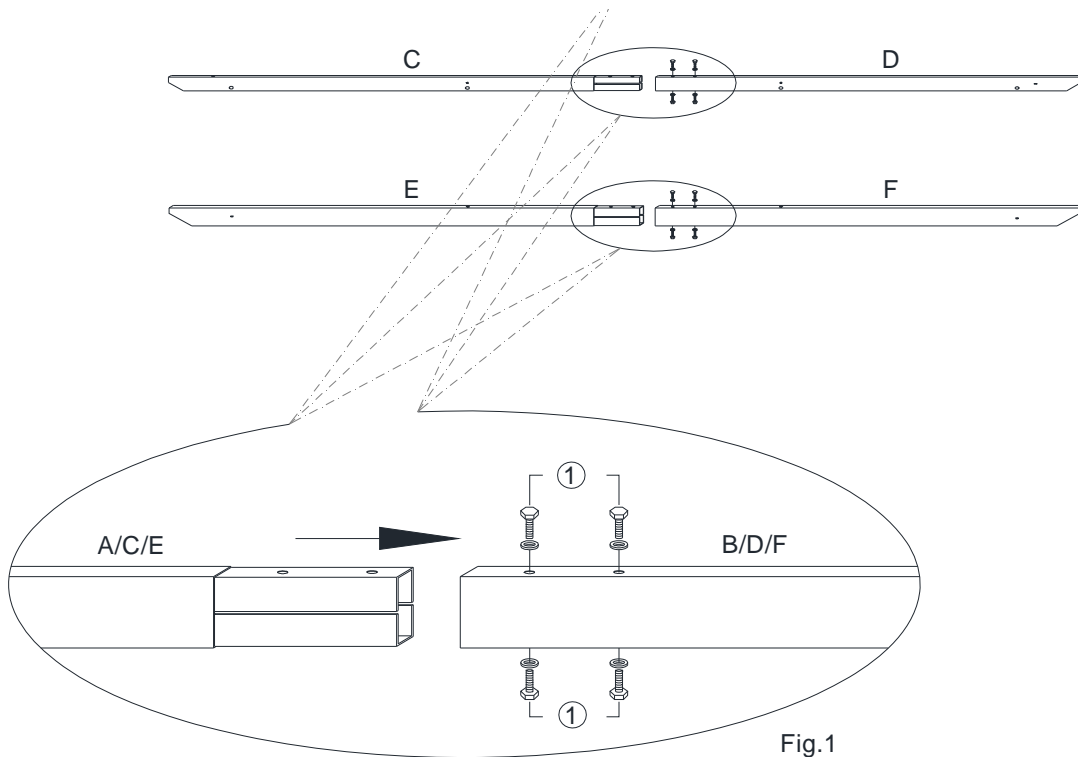

Fig.1
Attach Crossbars(E) to Crossbars(F) using Bolts(1) with Wrench(5). (See Fig. 1)